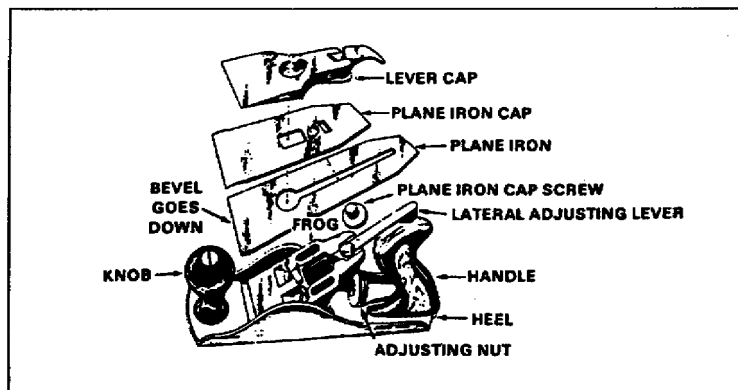

Figure 2-25. Hand plane
(1) Hand Plane. A plane is a finishing tool used for smooth surfaces (Figure 2-25). It consists of a wood or iron stock or a combination of the two, with the cutting edge projecting from a slot on the underside. The cutter inclines backward and has a chip breaker in front to dispense the shavings. The plane is light and easy to use in finishing and bringing wood down to the desired thickness. Hold the plane with both hands and, with long strokes push it away from you.